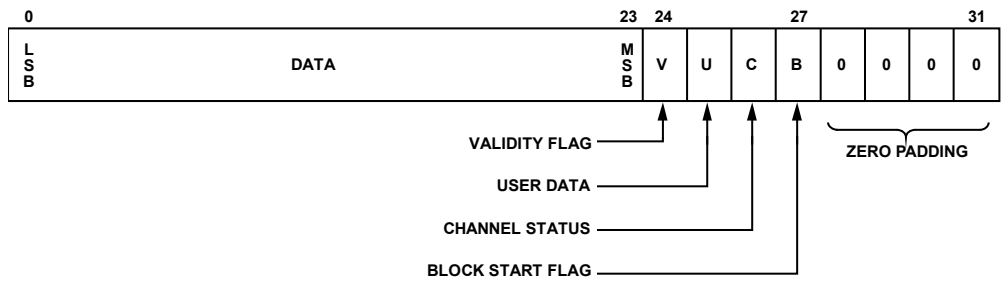
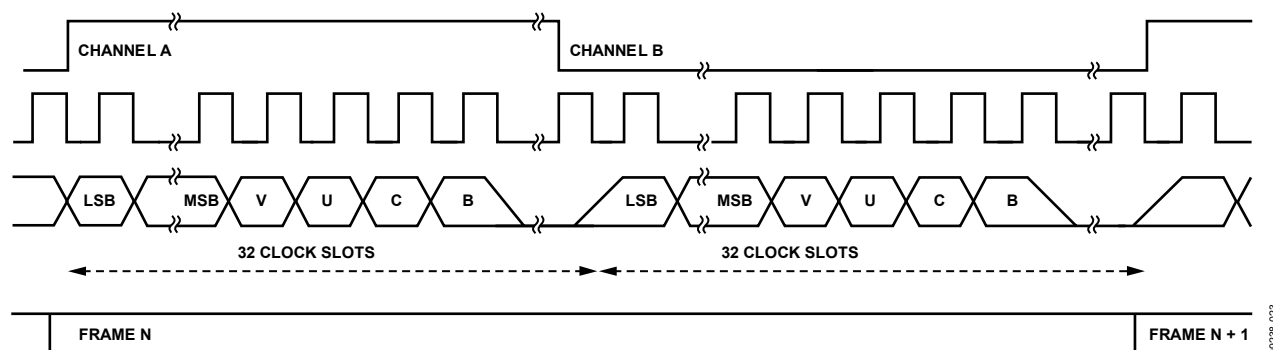

Figure 18. AES3 Subframe Timing Diagram
Figure 19. AES3 Stream Timing Diagram
- An AES3 stream if the I2SOUTMODE[1:0] control is set to 0x3 (refer to Figure 18 and Figure 19). Note that AES3 is also referred to as raw SPDIF. Each AES3 stream may encapsulate stereo L-PCM audio data or multichannel non L-PCM audio data (for example, 5.1 Dolby Digital).